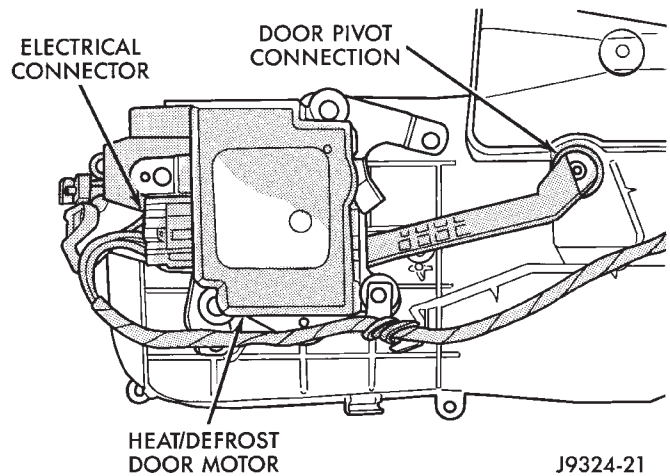

Fig. 63 Heat/Defrost - Panel/Defrost Door Motor
- (1) Remove the heater-A/C housing from the vehicle as described in this group.
- (2) Turn the heater-A/C housing upside down.
- (3) Unplug the wire harness connector from the motor (Fig. 63).